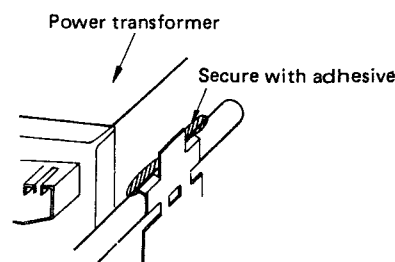

Fig. 4
- (1) Insert the front of bottom board between the front chassis and front panel.
- (2) Insert claw ⑥ of board into claw hole ⑥ of front chassis. [See Fig. 4]